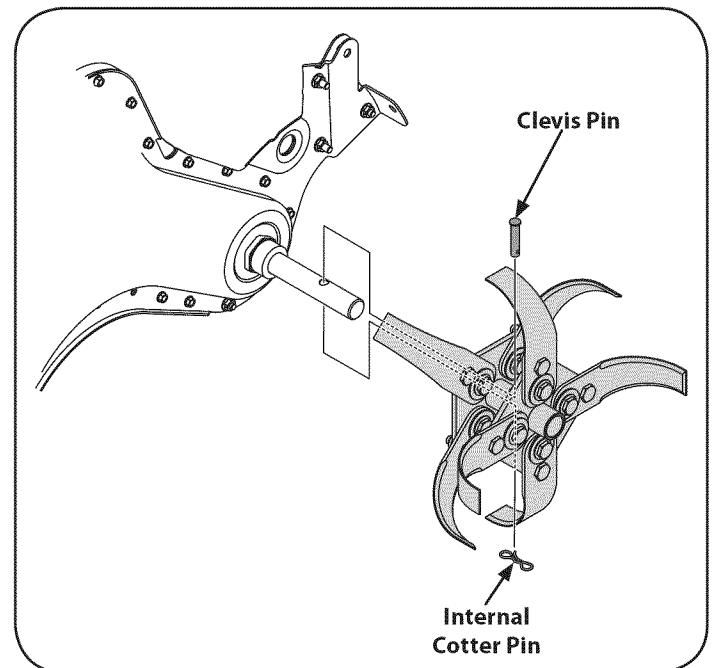

Figure 24
3. To remove a tine assembly, simply remove the internal cotter pin securing the clevis pin. See Figure 24.